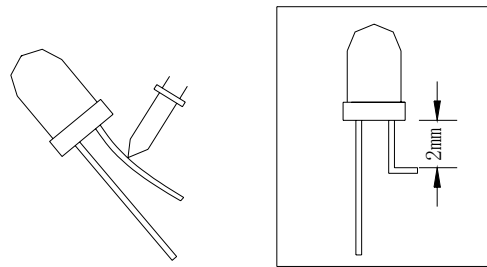

Fig.7
1) The lead should be bent at least 2mm away from the package. Bending should be performed with base fixed to a jig or pliers (Fig.7)